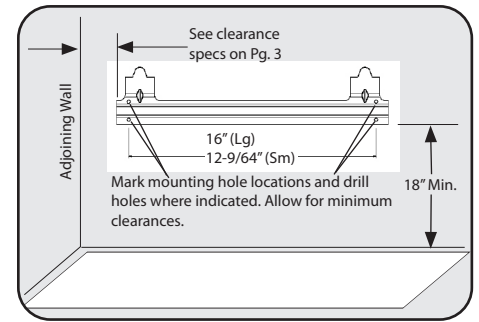

Figure 7
2. Mark screw locations on wall. See figure 7.
WARNING: Maintain minimum clearances shown in Figure 7. If you can, provide greater clearances from the floor and joining wall.